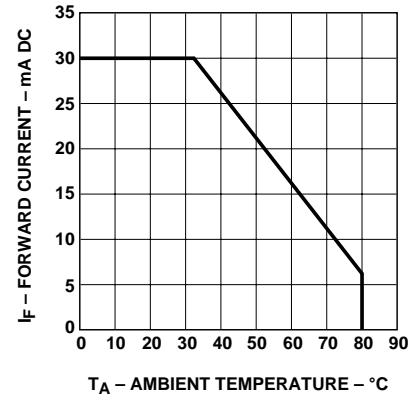

Figure 6. Maximum DC forward current vs. ambient temperature. Derating based on  $T_J$  max. = 115 °C.
- Derate linearly from 50 °C as shown in Figure 6.